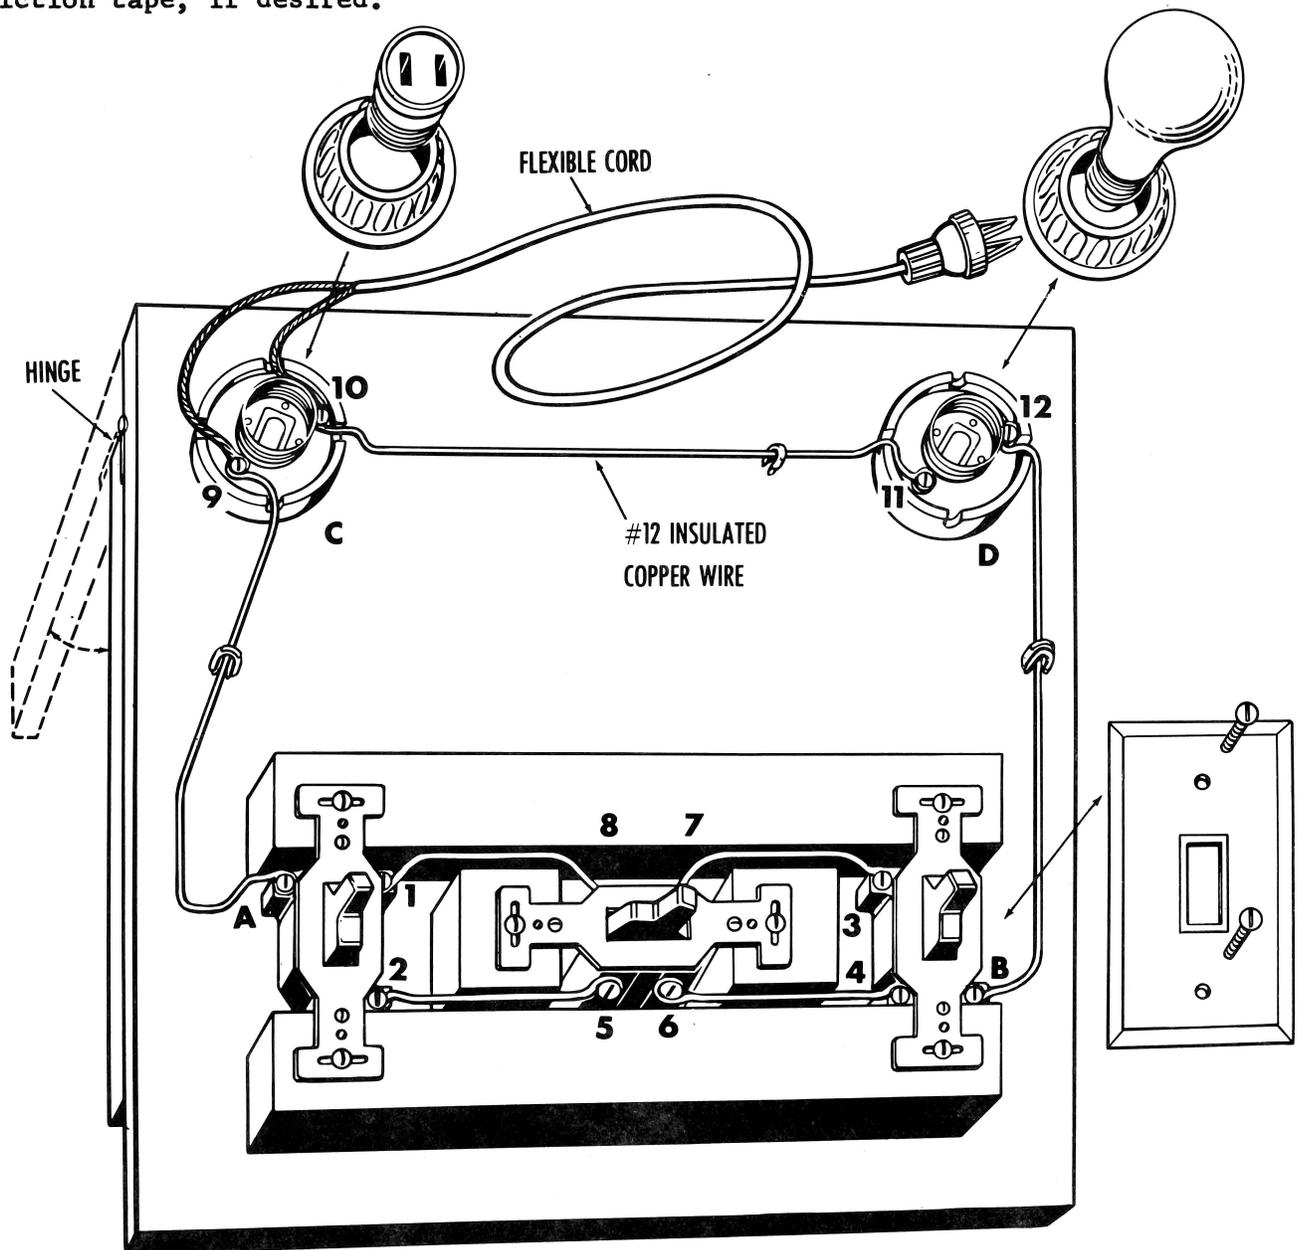

Figure 8 **DEMONSTRATION CONTROL BOARD**
Prepare your board as shown in Figure 8. The cleats should be about 3" shorter than the board is wide, and just far enough apart for mounting your switches. Attach wooden "feet" or legs to underside of board at corners as shown. Use wood screws or nails. The board is now ready for mounting switches, light socket and wiring.
Mount switches as shown in Figure 8, with 4-way switch in the middle. Use mounting hardware that comes with switches and socket. (When wiring has been completed and checked, put the plates over the switches and screw covers on sockets to cover exposed terminals.) Mount light sockets as indicated.
3. Wire the board as shown in Figure 8. With a pencil, check off the corresponding wire in Figure 8 as you attach each wire to the circuit. In this way, you'll be sure you haven't omitted a wire. Check off (✓) each wiring step below as it is completed.
- ( ) Use the remaining wire to connect other terminal (12) of the light socket D with terminal B of the second 3-way switch.